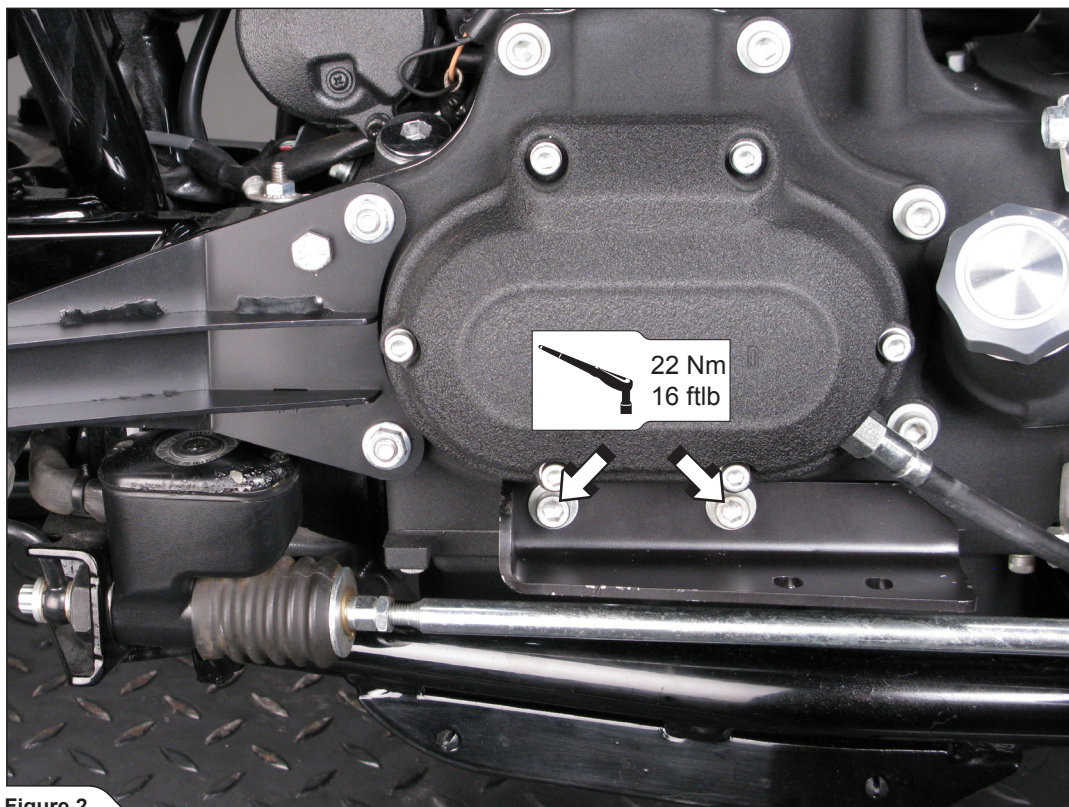

Figure 2
2. Screw the front muffler's Akrapovič bracket onto the transmission housing, using original bolts (Figure 2).